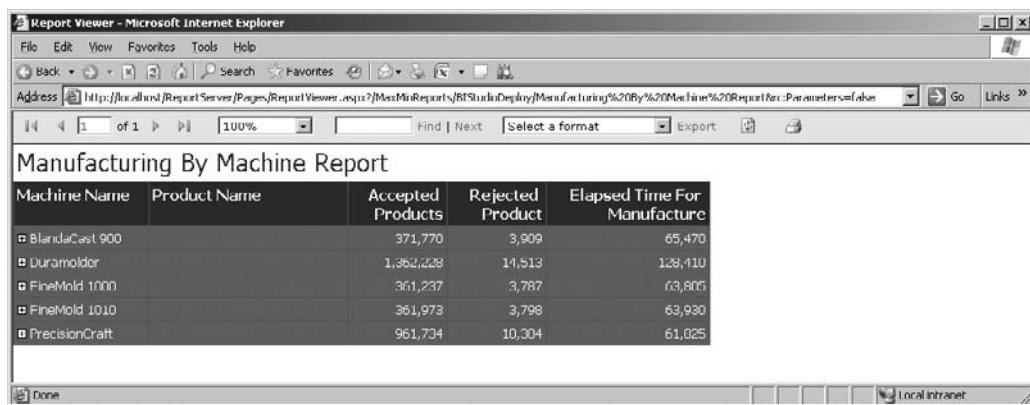

Figure 18-11 The parameters are suppressed.
2. Click Go. The Manufacturing By Machine Report appears. The parameter portion of the Report Viewer is invisible, as shown in Figure 18-11, so the user cannot change the parameter values.